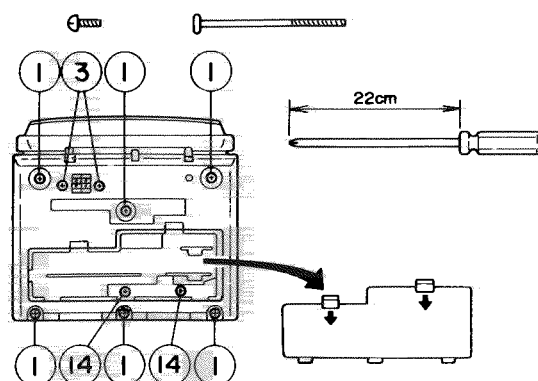
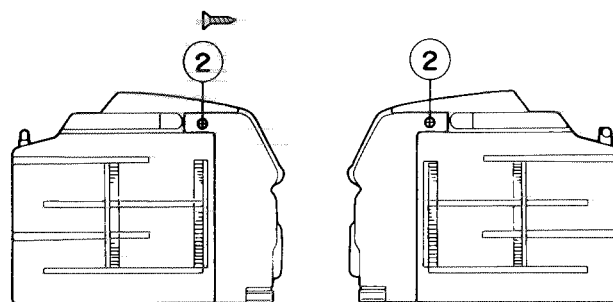
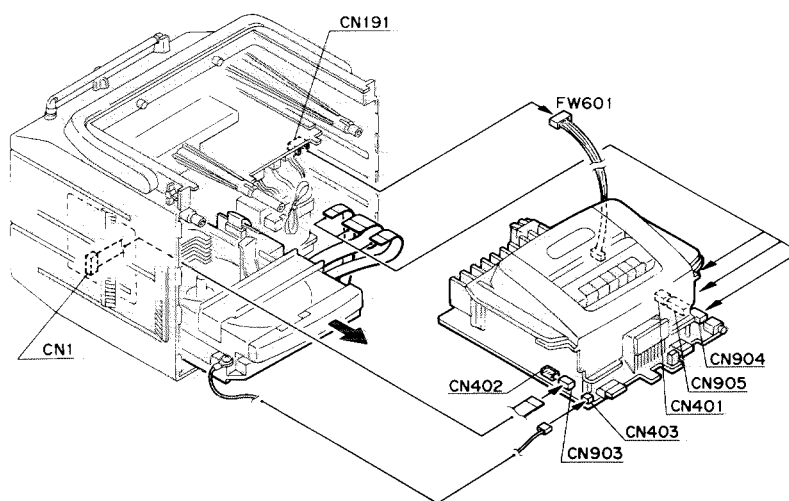

Fig. 2-1
Fig. 2-2
Fig. 2-3
◆ Front cabinet (Fig.2-1~Fig. 2-2)
◆ CD player unit (Fig. 2-3)
◆ Cassette mechanism and main amplifier board assembly unit (Fig. 2-1, Fig. 2-3)
1. Remove the two screws ③ securing the speaker terminal from the rear of the rear cabinet. (See Fig. 2-1.)